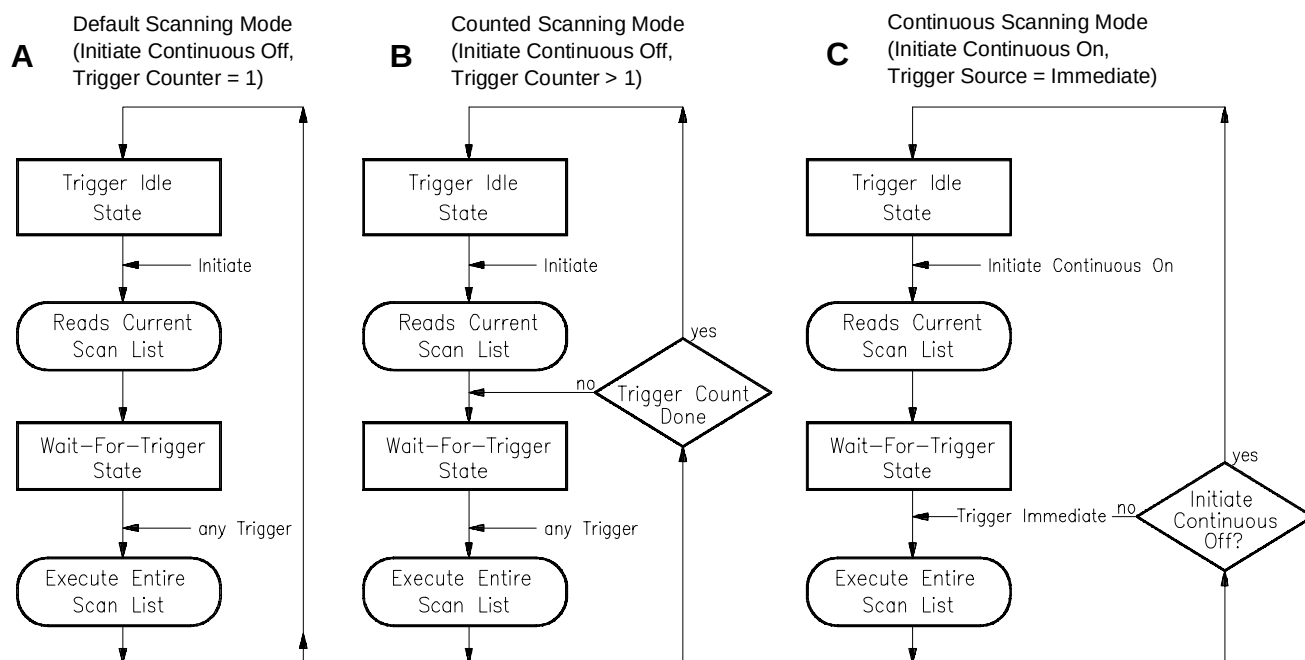

Figure 4-4. Scanning Modes
- The “Default Mode” is set when INITiate:CONTinuous is set to OFF, and the TRIGger:COUNt is set to 1. Power-on and the *RST command also set this mode. The sequence of events for this mode is shown in Figure 4-4 A. Note that starting at the trigger idle state, you must execute an INITiate command to begin each scan. The sequence also shows that the current scan list (as set by ROUTe:SCAN <scan_list>) becomes effective after the INITiate command.
- The “Counted Mode” is set when INITiate:CONTinuous is set to OFF, and the TRIGger:COUNt is set greater than 1. In this mode, a single INITiate command will allow as many scans as TRIGger:COUNt specifies. Note that TRIGger:COUNt can be from 2 to 32768 or INFinity. The sequence of events for this mode is shown in Figure 4-4 B. The sequence shows that the current scan list is only set at the start of the counted scan. This means that the current scan list can not be changed while the module is scanning. However, by specifying LISTL as the current scan list before INITiate:CONTinuous ON, the sequence of scan lists specified in LISTL will be executed.
- The “Continuous Mode” is set when TRIGger:SOURce is set to IMMEDIATE, and INITiate:CONTinuous is set to ON. Note that executing INITiate:CONTinuous ON not only sets the Continuous Mode but also initiates the module. To stop at the end of the current scan, execute the INITiate:CONTinuous OFF command. The sequence of events for this mode is shown in Figure 4-4 C. The sequence shows that the current scan list is not read while the module is scanning. This means that the current scan list cannot be changed “on-the-fly”. However, by specifying LISTL as the current scan list before INITiate:CONTinuous ON, the sequence of scan lists specified in LISTL will be executed. This mode is the fastest since the module does not need to read the current scan list or check for the occurrence of a trigger event.